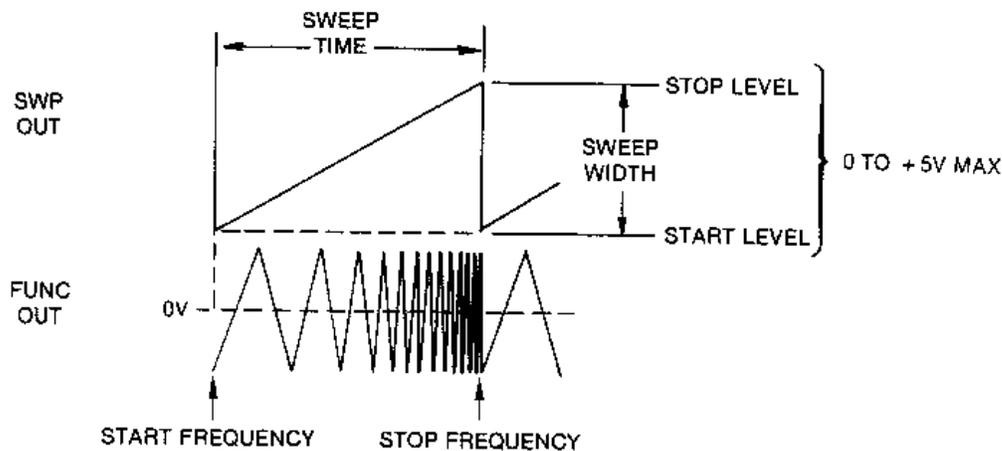

Figure 3-3. Sweep Time and Width
- 5 Sweep Set Control** The Swp Set control, the inner knob of the concentric pair, sets the stop frequency in the sweep modes (see figure 3-3).
**12 Sweep Time Switch** The Sweep time button, when pushed, steps through the sweep time (.01, .1, 1, and 10 seconds). Sweep time is indicated by an annunciator arrow on the display. Frequency of the internal sweep ramp, the sweep rate, is governed by the Sweep time switch 12 (see figure 3-3).
Set as desired. Limit offset to prevent clipping (see figure 3-3).